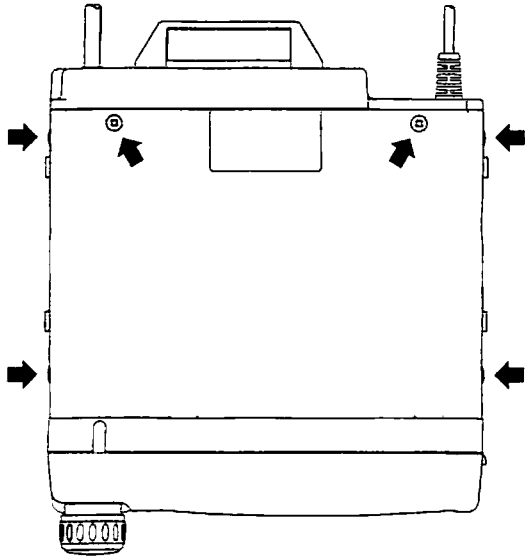

Figure 1
- ❑ Disconnect the power cable, and turn the set upside-down. Referring to Figure 1, remove the six screws affixing the bottom cover.